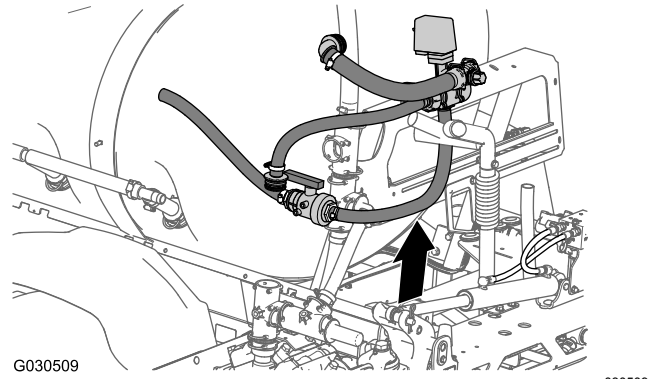

Figure 69
- Remove the agitation valve (and bypass valve), ball valve, and the hoses that are attached to the valves from the machine (Figure 69).